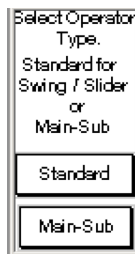
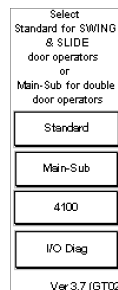
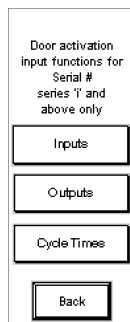

Fig. 3
Fig. 4
Fig. 9
3. For GT-01/02 software prior to Ver. 3, the screen in Fig. 3 will display. Choose either 'Standard' or 'Main/Sub' operator. For Ver. 3.7 of the GT-01/02 software, the screen in
Fig. 4 will display. For Main/Sub, select 'Lead Door' or 'Follow Door' on the next screen (Fig. 5), then skip to step 5. NOTE: Check PLC model number for appropriate 'Main-Sub' selection.
Selecting the 'I/O Diag' button from main screen (Fig. 4), will bring you to the screen in Fig. 9. 'Outputs' will display the screen in Fig. 11.
NOTE: When using the newer GT-01/02 Software with an older PLC, or vice-versa, the initial startup of the GT-01/02 may be longer than usual and/or may display an error on the screen, it will then clear and go to the initial screen shown in either Fig. 3 or Fig. 4